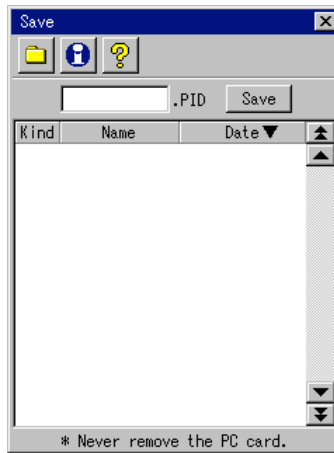

Figure 4.11 [Save] window
- (1) After performing the measurement, press the  icon (<File> - <Save Result>) to display the Fig. 4.11.
- (2) Press the filename textbox in the window shown in Fig.4.11 and press the <Save> button to save the result.